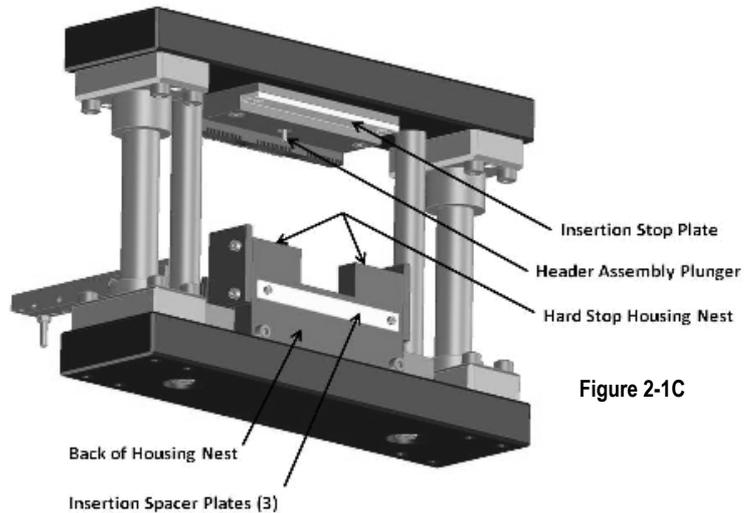

Figure 2-1C
1. The Insertion spacer plates (3) of 0.30mm thickness have been provided to account for thicker PCB's up to 2.40mm thick. These insertion spacer plates are attached to the back of the housing nest for storage purposes. See Figure 2-1C.
3. Remove insertion stop plate from upper tooling. Stack appropriate number of spacer plates onto top of insertion stop plate and reattach to upper tooling. Store any unused spacer plates on the back of the housing nest. See Figure 2-1C.
1. Loosen the M10 nut on the plunger (located in hole of the top plate of fixture) using a deep metric socket. See Figure 2-1C and 2-2.
5.  Cycle the press so that the upper tooling contacts the top of hard stop of the housing nest. Failure to contact the hard stop will result in PCB insertion depth variation. See Figure 2-1C.